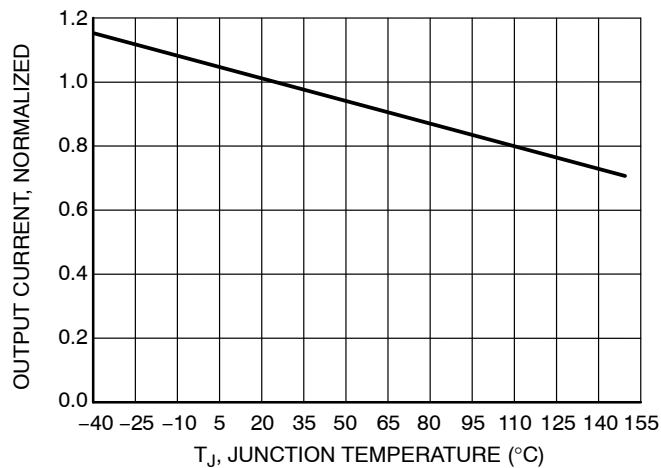

Figure 5. Current Regulation vs. Junction Temperature
10. Calculate the junction temperature using the thermal information on Page 7 and refer to Figure 5 to check the output current drop due to the calculated junction temperature. If desired, compensate it by adjusting the value of  $R_{ext}$ .